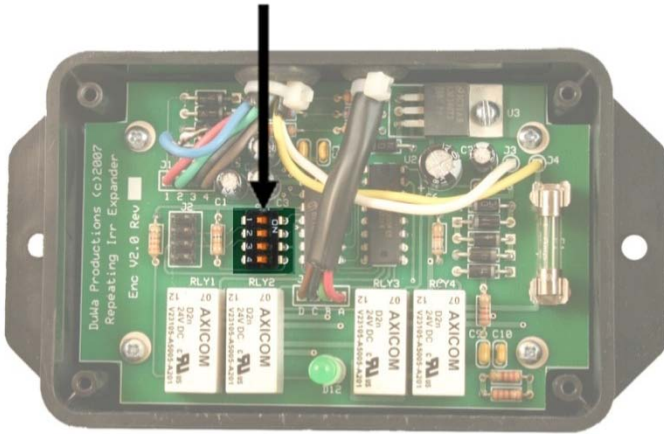

Figure 2 – Switch Location
3. Carefully slide the handle on SW1 (SW1 is on top) to the right (“ON”) position (see Figure 2).
3. Carefully slide the handle on SW2 and/or SW3 (see Table 5) to the right (“ON”) position (see Figure 2).